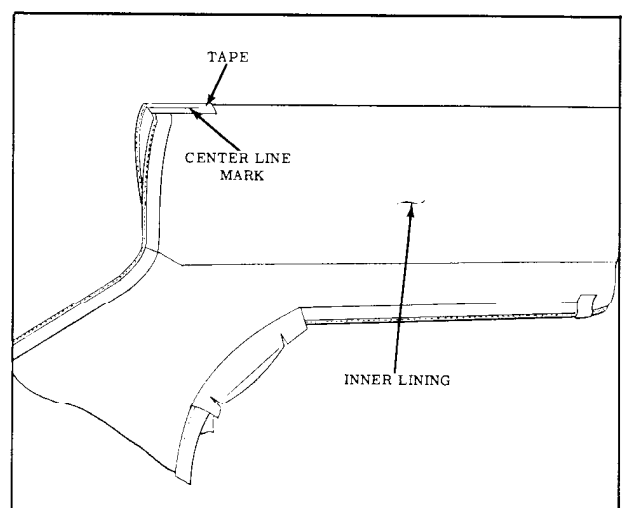

Fig. 17-38 Marking Folding Top Assembly
26. Fold new top material in half so that inner lining of top material is exposed. (Fig. 17-38) Install a 6" piece of tape on inner surface at centerline fold of new top material. (Fig. 17-38) Using a pencil, mark the approximate centerline of new top material along entire length of tape.